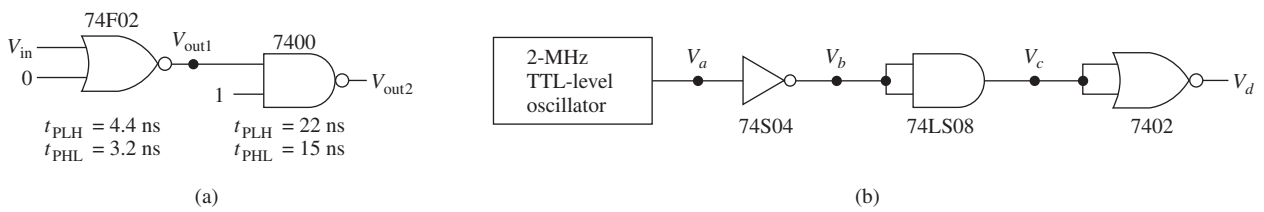

Figure P10
- C** 10. (a) Repeat Problem 9 for the circuit of Figure P10(a).
(b) Repeat Problem 9 for V_a , V_b , V_c , and V_d in Figure P10(b). (Use a TTL data book to determine the propagation delay times.)